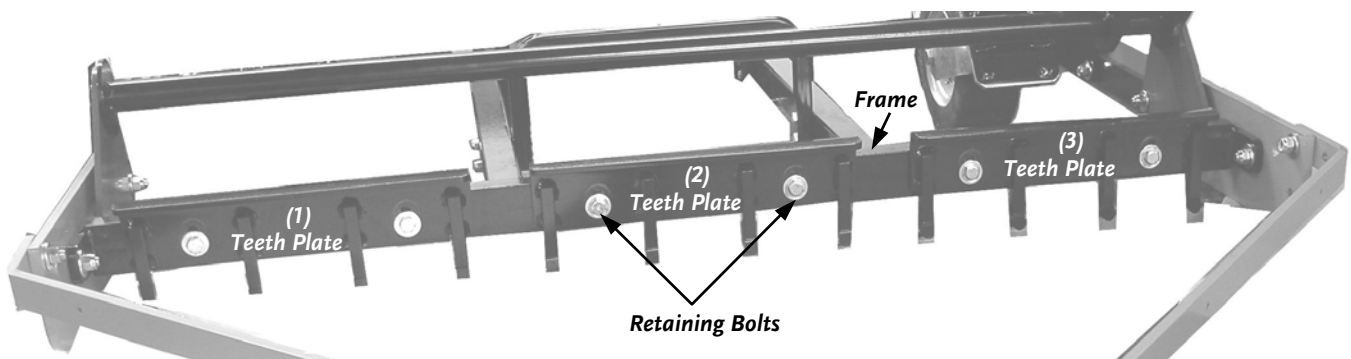

Figure 20
2. Using two (2) 9/16" Wrenches, loosen and remove the two (2) Retaining Bolts on each Scarifying Teeth Plate (*Figure 20*).
NOTE: The 60" Model has four (4) sets of Scarifying Teeth Plates (48" Model shown in *Figure 20*).
NOTE: The Scarifying Teeth Plates should be parallel to the frame when finished (*Figure 20*).